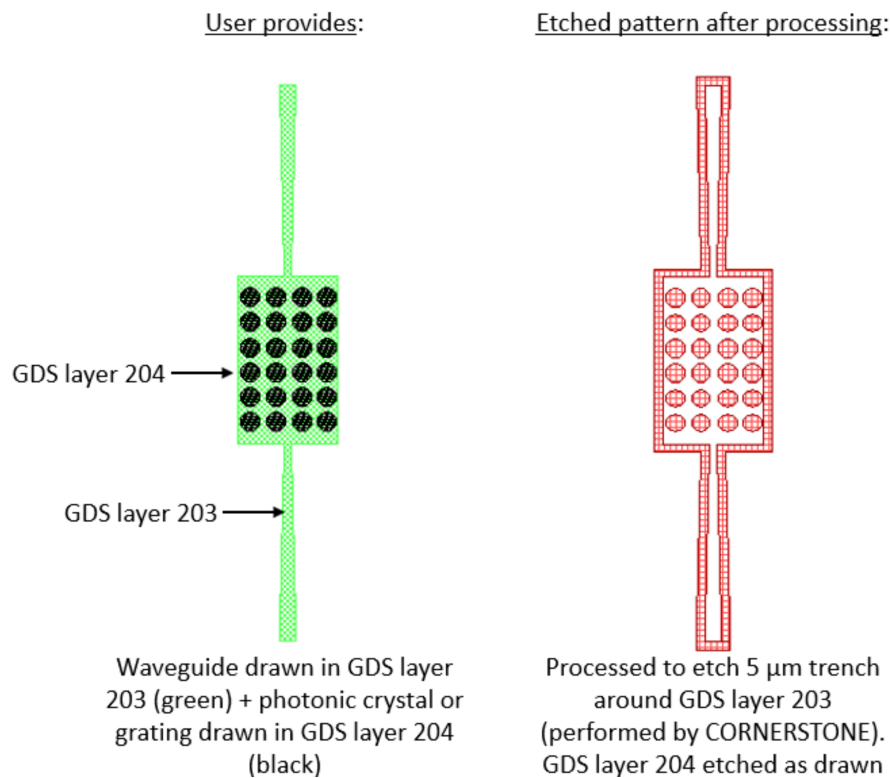

Figure 2: Example photonic crystal structure using GDS Layers 203 & 204.
- Silicon Nitride Etch 1: 200 nm full etch to BOX – GDS Layer 204 (Dark field): Drawn objects on this layer will be exposed to the silicon nitride full etch to the BOX. An example photonic crystal structure is shown in Figure 2. The important thing to note here is that the waveguide layer drawn in GDS layer 203 should overlap the structures drawn in GDS layer 204, so that when the 5 μm -wide trenches are generated by CORNERSTONE, a continuous waveguide remains. Note that the client should contact CORNERSTONE team if the design has photonic crystals structures with a diameter smaller than 600 nm to decide on whether structures need to be biased.